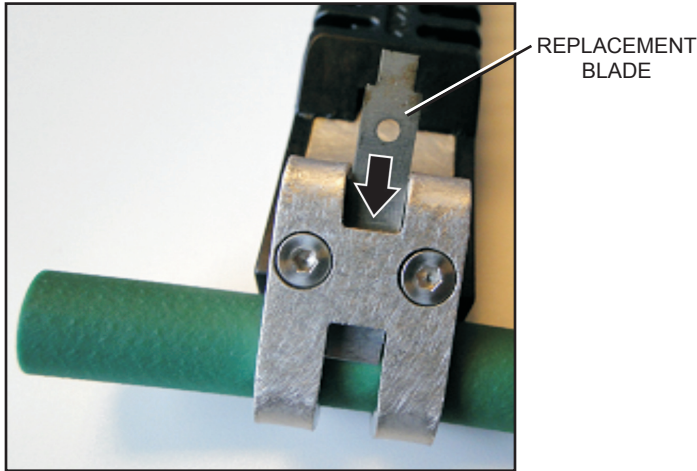

Figure 3
3. With the belt secured into the tool, insert the replacement blade with the beveled side of the blade facing toward the round belt. Push the blade in until it just touches the belt and then tighten the two 5/16" Allen head screws to secure the blade in place. Refer to Figure 3.